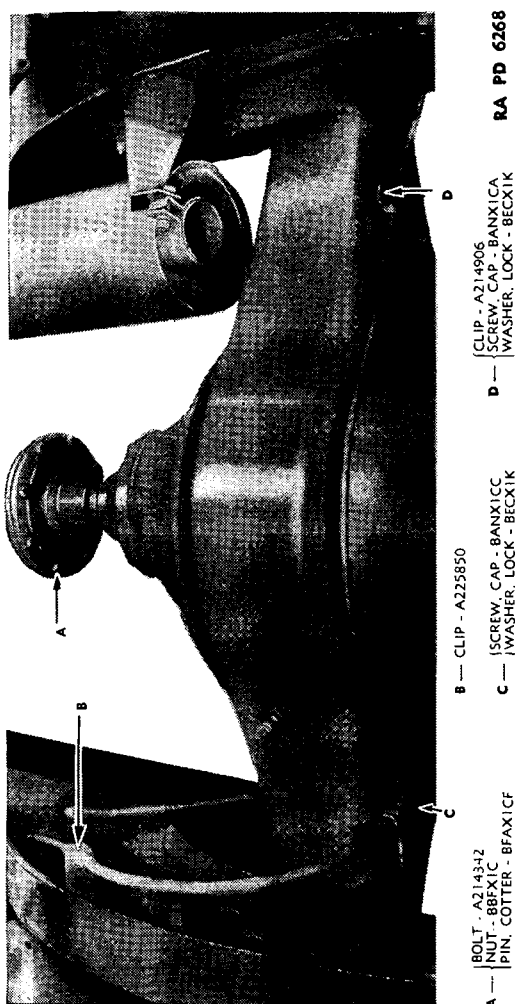

FIGURE 46.—Rear wheel brake lines, installed.
d. Disconnect brake lines— $\frac{9}{16}$ -inch, open end wrench. Break hydraulic hoses at wheel cylinders and remove cap screw (BCAX1CC) and lock washer (BECX1K) holding brake line tee (A167679) to differential housing, and cap screw (BCAX1CA) and lock washer (BECX1K) holding brake line clip (A214906) to axle housing (fig. 46).
(1) Disconnect rear propeller shaft— $\frac{9}{16}$ -inch open end wrench, $\frac{9}{16}$ -inch socket wrench. Remove eight $\frac{3}{8}$ -inch bolts, nuts, and cotter pins holding universal joint flange to jackshaft companion flange (fig. 46).
(2) Drain lubricant— $\frac{9}{16}$ -inch open end wrench. Remove magnetic drain pipe plug (A214913) from housing and drain lubricant.
(3) Remove floor plate— $\frac{7}{16}$ -inch socket wrench. Take out screw (BCNX2CF) and nut (BBAX1A) securing floor plates (B185254) over differential housing and remove plates.